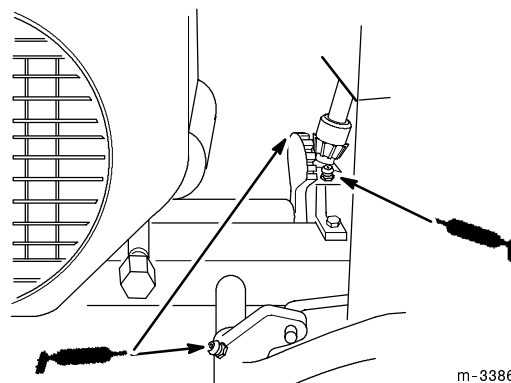

Figure 26
3. Lubricate the pedal(s) where it pivots on the mounting shaft, steering shaft and spread grease on steering sector teeth (Fig. 26).